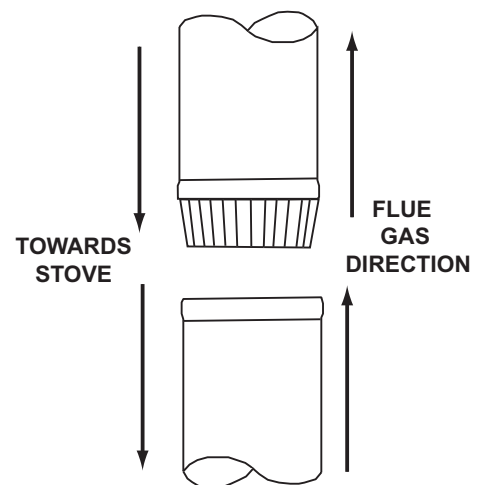

FIGURE 7
- A. Single wall connector or stovepipe. This must be at least 24 gauge mild steel or 26 gauge blue steel. The sections must be attached to the stove and to each other with the crimped (male) end pointing toward the stove. See Figure 7. All joints, including the connection at the stove collar, should be secured with three sheet metal screws. Make sure to follow the minimum clearances to combustibles as set out on pages 8 and 9 of this manual. Where passage through the wall, or partition of combustible construction is desired, the installation shall conform to CAN/CSA-B365.